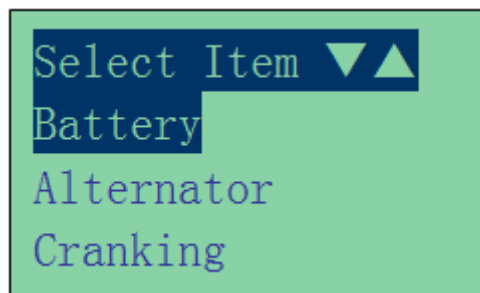

Figure 20
2. It will run through a self-test and when completed it displays the Main Menu as shown: (Fig. 20)